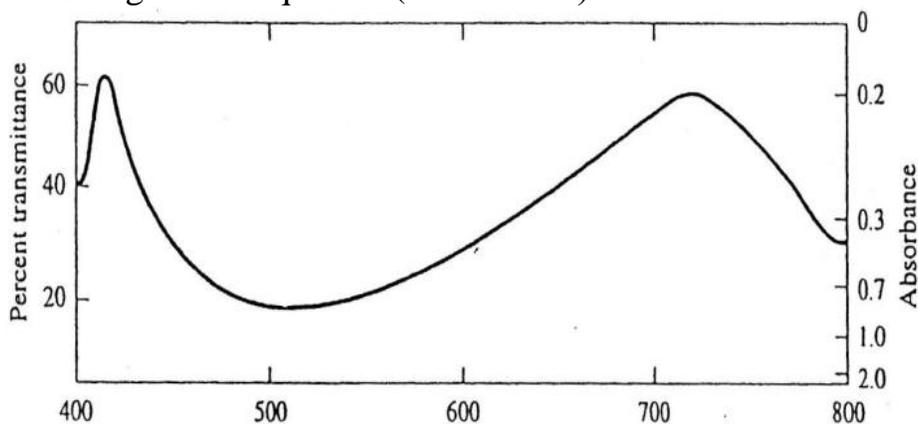

Figure 1: The absorption spectrum of the Fe³⁺-salicylate complex.
When we see an object as purple, in fact it absorbs light in the “green” region of the spectrum: only blue and red wavelengths reach the eye, which we experience as the purple color, the ASA-Fe³⁺ complex formed in the analysis of aspirin absorbs wavelengths in the blue, green and yellow regions of the spectrum, as shown in figure 1. Only violet and red light are “transmitted”, as a result, the human eye sees the transmitted light as a mixture of violet and red, which we experience as a deep purple, a spectrum shows how much light is absorbed for a range of wavelengths, in UV/VIS spectrophotometer we plot the **Absorbance (A)** of a solution against the wavelength of the light reaching the solution (λ), this is called the **absorption spectrum**, the higher the analyte concentration, the more light at a certain wavelength will be absorbed, the relation between Absorbance **A** and analyte concentration **C** is given in equation (Beer’s Law):- **$A = \epsilon I C$**
In Fig.1 note that Transmittance percentage (**T%**) is plotted on the left (linear scale), Absorbance (**A**) on the right (logarithmic scale), the absorbance maximum is at approximately 510 nm (λ_{max}), the spectrophotometer takes the place of the human eye by accurately measuring the intensity of the light transmitted at each wavelength, for spectrophotometer in the visible region the **light source** is a common tungsten light bulb emitting “white” light, the light is collimated and focused on an entrance slit (via a system of mirrors) the light falls on a **monochromator**, that separates the white light in its constituent wavelengths, the monochromator can be a **glass prism**, but in modern instruments it will be a **grating**, from the monochromator the light is sent through the sample holder a **cuvette**, and finally reaches a **photocell (detector)** that measures the intensity of the light at each specific wavelength, and recorded as absorbance **A** or the transmission **T** (or **%T**) vs (λ) or (**C**) by output (**readout**).